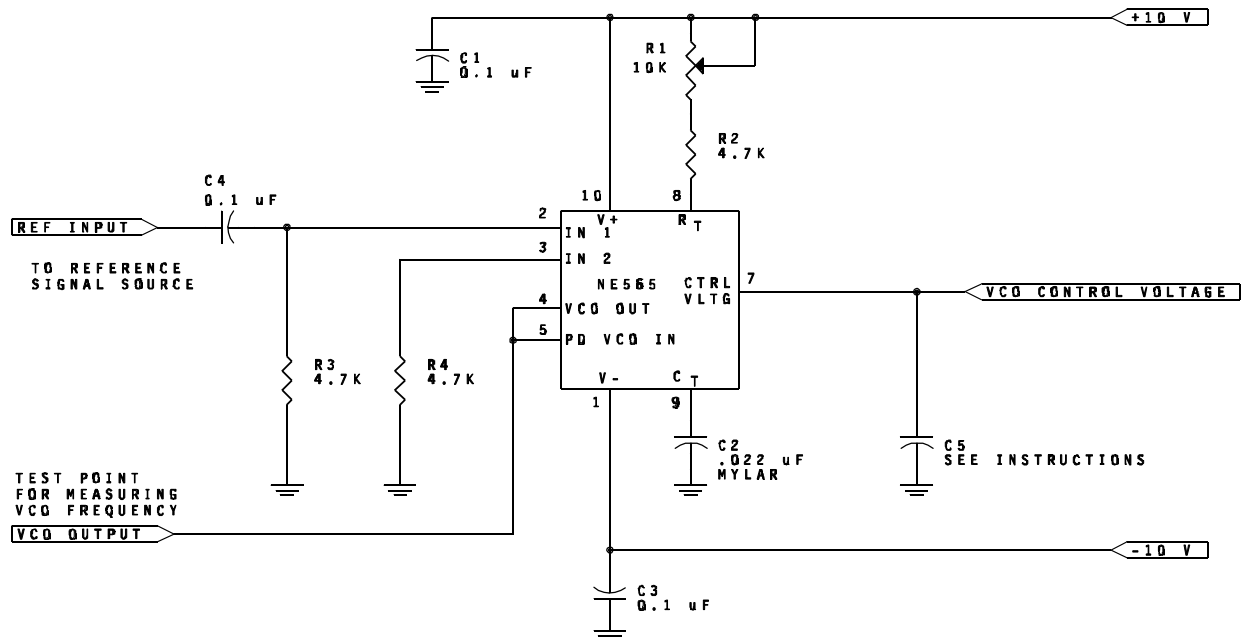

FIGURE 3: NE565 PLL EVALUATION CIRCUIT
In figure 3 (on the next page), the VCO timing is set by  $R_1$ ,  $R_2$ , and  $C_2$ . The low-pass filter time-constant (which we will vary) is formed by the internal 3.6K resistor on pin 7, and  $C_5$ . The reference input goes to pin 2, one of the phase detector inputs. The other phase detector input on pin 5 is directly connected to the VCO output on pin 4, closing the loop.
1. Construct the circuit of Figure 3, using a 10 uF electrolytic for C5. (C5 is the capacitor for the loop low-pass filter.)